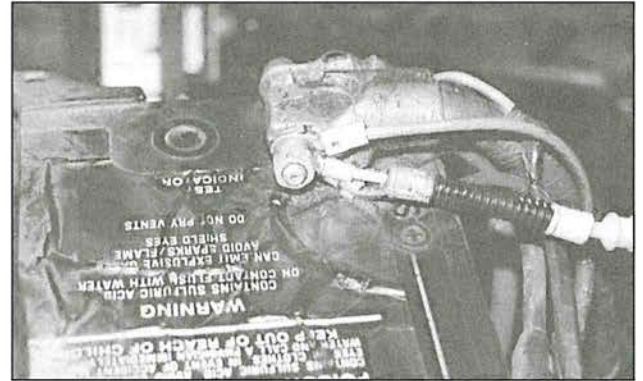

Fig. 24
- b. Remove the nut from the battery clamp on the positive terminal (Fig. 24). Slip the ring from the power supply wire over the battery terminal clamp and reinstall the nut.